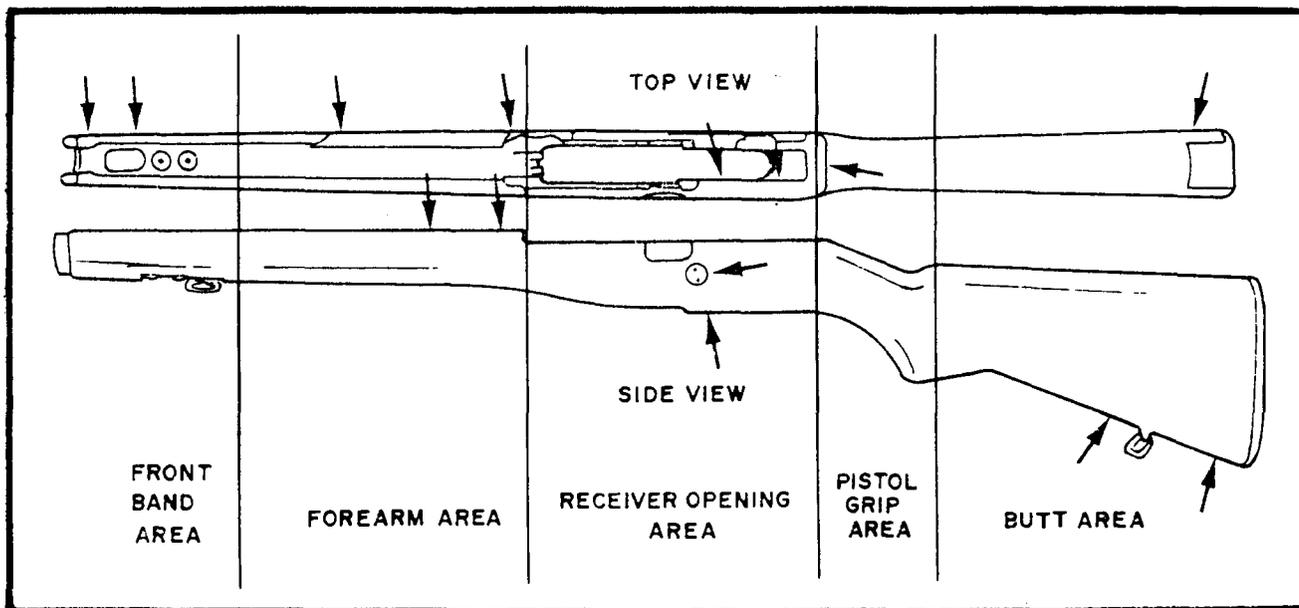

Figure 1. General inspection areas of shoulder stocks (M14 rifles).
(1) General. Satisfactory metal surfaces for weapons range from black to light gray. A worn shiny metal surface is objectionable only when it is capable of reflecting light. No weapon will be rejected unless exterior parts have a shine. All rear sights must have a dull gray or black finish on all surfaces that would cause a glare.
(2) M16 Series Rifles and M231 Firing Port Weapon. Minor loss of finish (shiny spots, nicks, scratches) on exterior surfaces of the barrel and flash suppressor shall not be cause for rejection of these weapons located in hands of troops at training centers. Large shiny surfaces, nicks, scratches, etc., can be restored by the use of solid film lubricant, NSN 9150-01-260-2534. (Refer to TM 9-1005-249-24&P for use.) Weapons (small arms) missing in excess of one-third or more of the exterior finish of their lower receiver, resulting in an unprotected, light-reflecting surface, are considered candidates for overhaul. The only authorized level of maintenance to phosphate finish small arms is Depot.
f. Wooden and plastic components must not be cracked or damaged in such a way as to interfere with their structural strength. Surface cracks, bruises, or dents that do not affect their strength will not be cause for rejection. Inspect wooden and plastic components in accordance with figures 1 through 3. Cracks will be cause for rejection. Criteria for determining which cracks are repairable are in TM 9-1005-301-30.
g. Barrels must be clean and free of corrosion such as that caused by moisture and powder fouling. Standards of serviceability are indicated in (1) through (11).
(1) Pits in the chamber are allowable if they do not cause extraction difficulties.
(2) Pits as wide as a land and 3/8 inch or less in length are allowable for 5.56-mm, caliber .30, and 7.62-mm barrels. Pits not greater than the width of a land and less than 3/8-inch long are permissible for caliber .45, 25mm, and caliber .50 barrels.